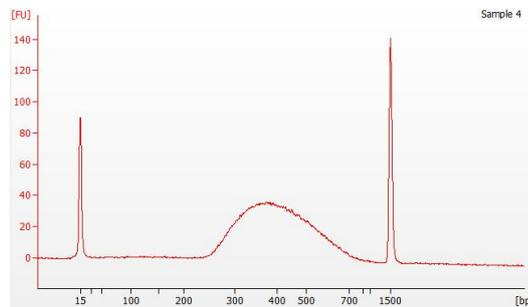
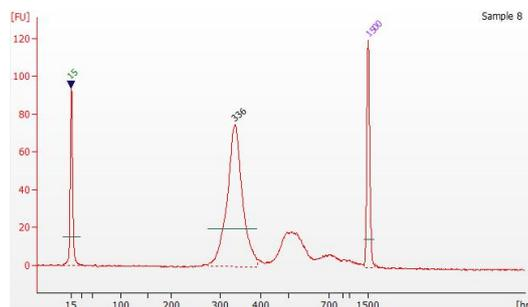

Figure 1. Example of FFPE DNA library size distribution on Agilent 2100 Bioanalyzer
Figure 2. Example of plasma cfDNA library size distribution on Agilent 2100 Bioanalyzer
- 2.7.2. Library fragment size QC: Assess the library quality with a recommended capillary electrophoresis analyzer and related kit. The peak size of the library fragment should be at  $\sim 380$  bp for FFPE DNA/PC library and at  $\sim 330$  bp for plasma cfDNA library, without obvious peaks of small and big fragments, as shown in Figure 1 and Figure 2.